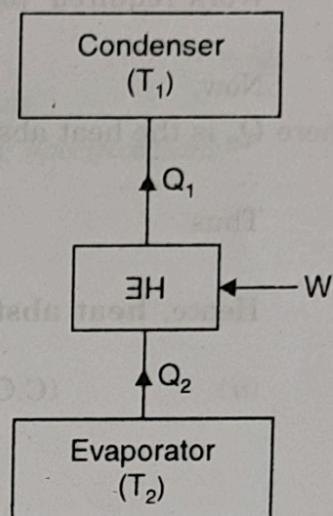

Fig. 11
**Solution.** Refer to Fig. 11.